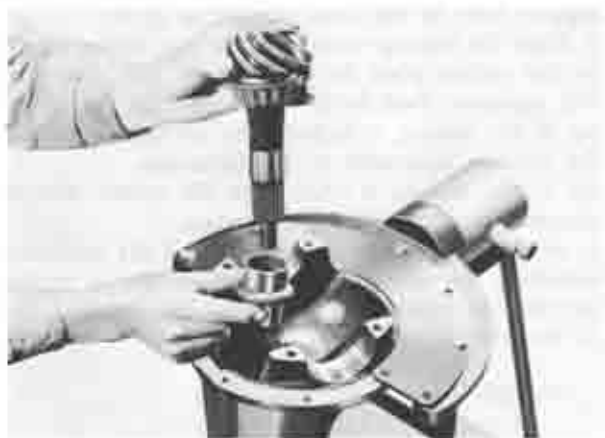

Fig. 9-25 Installing pinion and collapsible spacer
1. Position the pinion assembly in the carrier and install the collapsible spacer as shown in Fig. 9-25.